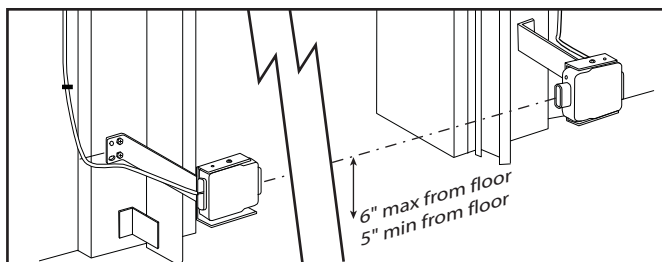

FIG. 5-4 Check Safe-T-Beam® Alignment.
Check Safe-T-Beam® alignment (Fig. 5-4).
- Insure that tops of lenses are between 5" - 6" above the floor (Fig. 5-4). The brackets are flexible, and can be adjusted slightly if needed.